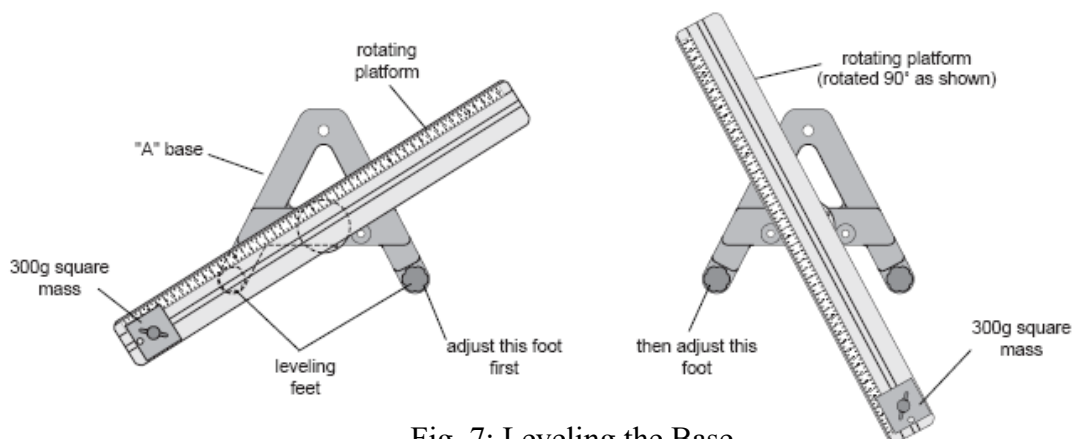

Fig. 7: Leveling the Base
- (b) Adjust the leveling screw on one of the legs of the base until the end of the track with the square mass is aligned over the leveling screw on the other leg of the base. See Fig. 7.